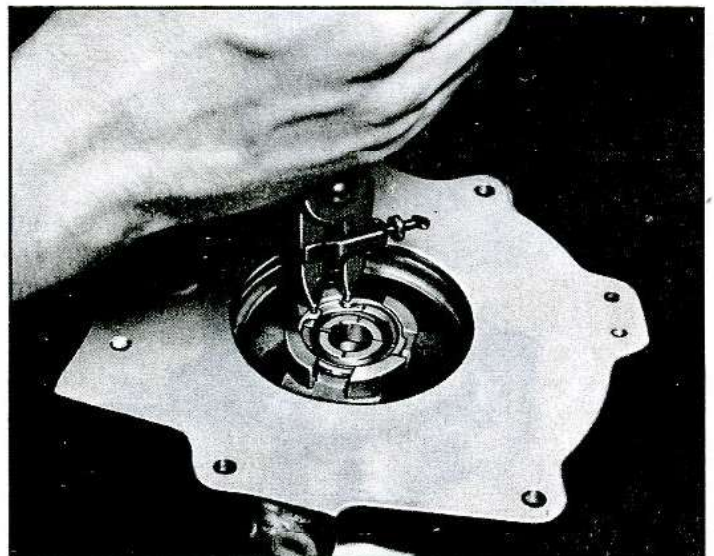

Fig. 43—Removing Bearing Retainer Ring
9. Remove the bearing retainer ring (fig. 43), then remove the bearing and shim.